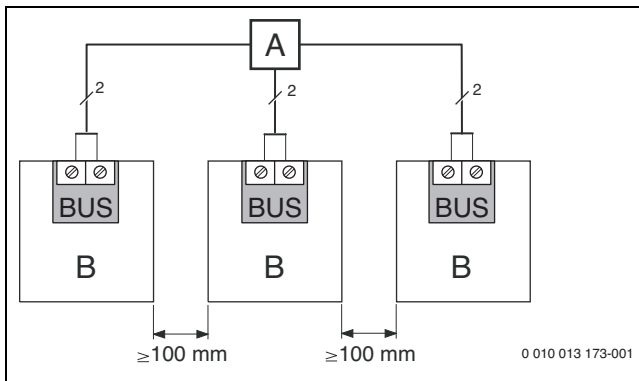

Fig. 34 Connecting the electrical distribution box
- ▶ Insert the BUS participant [B] via the electrical distribution box [A] into the star (→ Fig. 34), follow the instructions for the operating unit and the other modules).